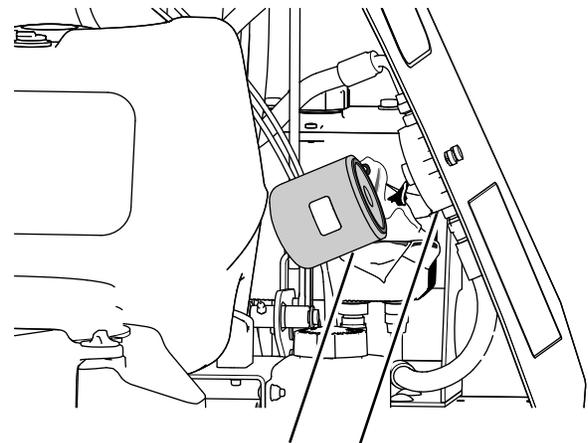

Figure 57
5. Rotate the auxiliary-hydraulic filter counterclockwise and remove it from the base of the filter adapter (Figure 57).
7. Install the filter by rotating it clockwise onto the filter adapter until the seal contacts the filter adapter, then tighten the filter an additional 2/3 to 3/4 turn (Figure 57).